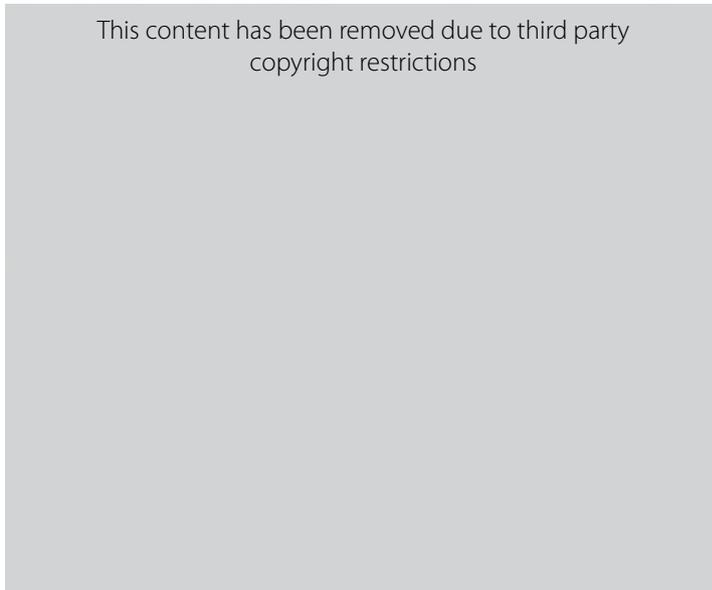

Fig. 7
- 6 Fig. 7 shows a hydraulic turbine-generator unit installed in a water dam which is used to generate electricity.